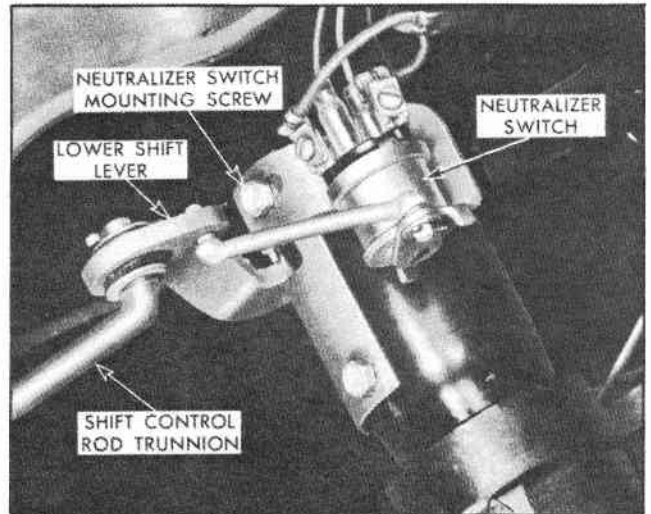

Fig. 41 Selector Lever Linkage
2. Loosen neutralizer switch mounting screw (Fig. 41).